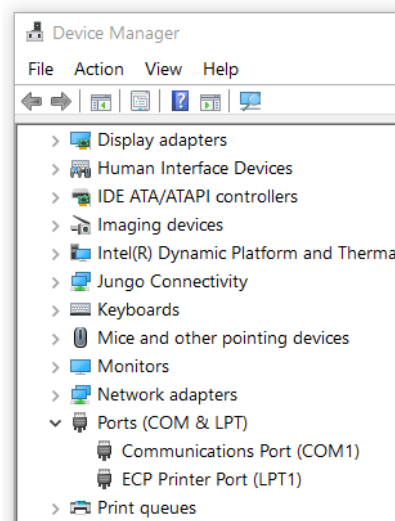

Figure 6-4 Ports in Device Manager
- Open the Windows's Device Manager and unfold "Ports" submenu (Figure 6-4).